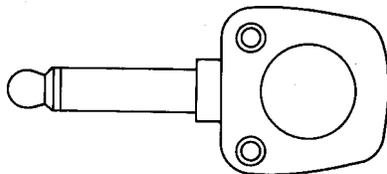

Fig. 20—444A-Type Plug
2.18 **444A-Type:** The 444A-type (Fig. 20) consist of 2-conductor plugs and have shells of insulating materials. The shells are available in colors as listed in Table B. The 444A-type plugs are designed for M2ER-type cords and mate with the 517A- and similar-type jacks. These plugs are used with the AE-Type Telephone Base in the 3A Communications System.